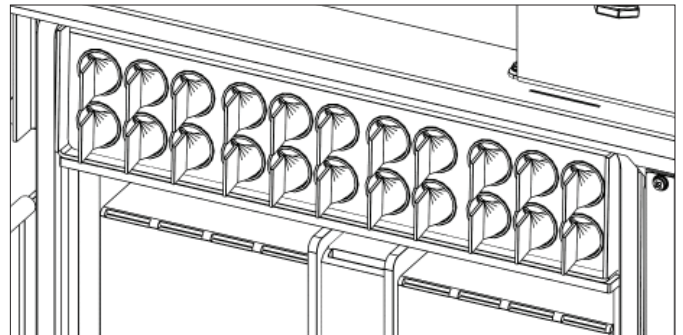

Figure 10-4: Spiral turbulators (26/35 model)
4. Check that all the spiral turbulators are in position and that all the ends are vertical. Refer to Figure 10-4.